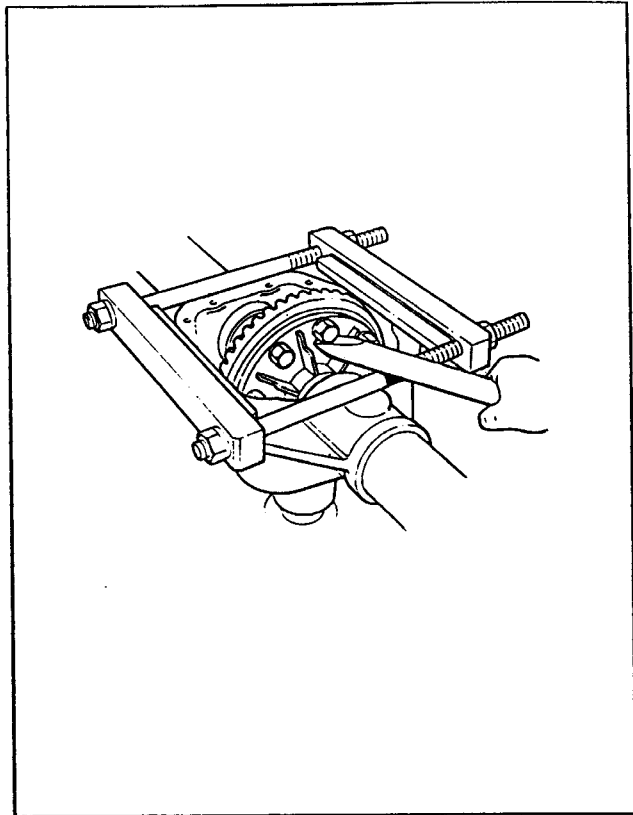

Fig. 12 Removing the differential assembly
14. Insert a suitable lever (Fig. 12) under a crown wheel bolt and, taking care not to bruise the gear teeth or axle casing, carefully lever the differential case assembly out of the axle casing. Unbolt the axle compression tool.